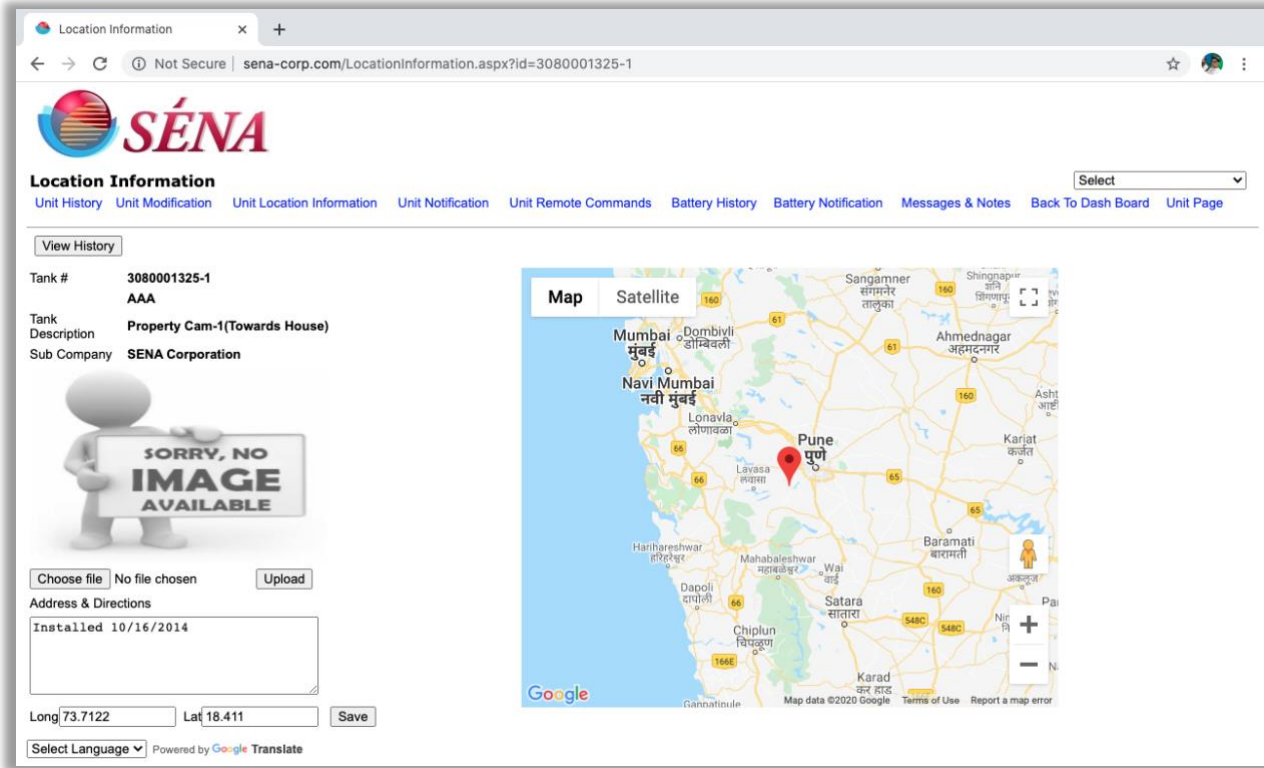

Figure 15
16) For check GPS location of unit click on “Unit Location Information” hyper link. Figure 15.